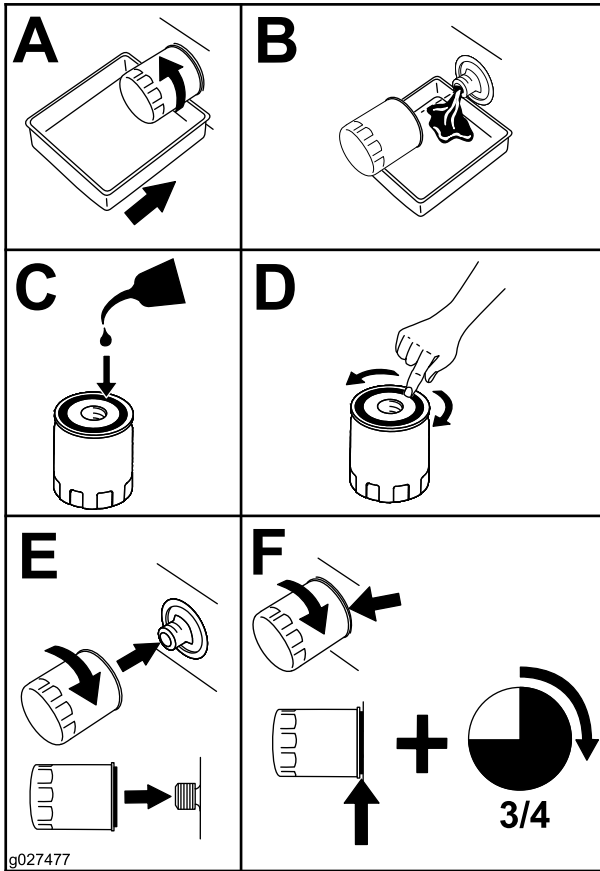

Figure 43
4. Change the engine-oil filter (Figure 43).